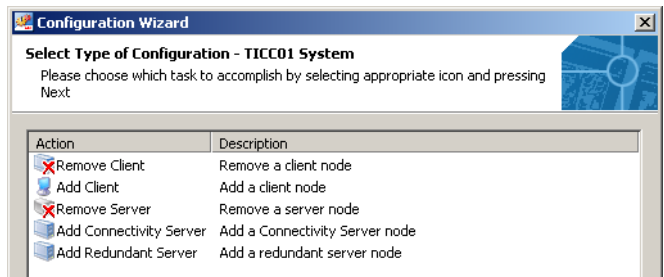

Figure 16. Nodes Administration Dialog Box
- 2. Select **Remove Client**, see Figure 16, and click **Next**.